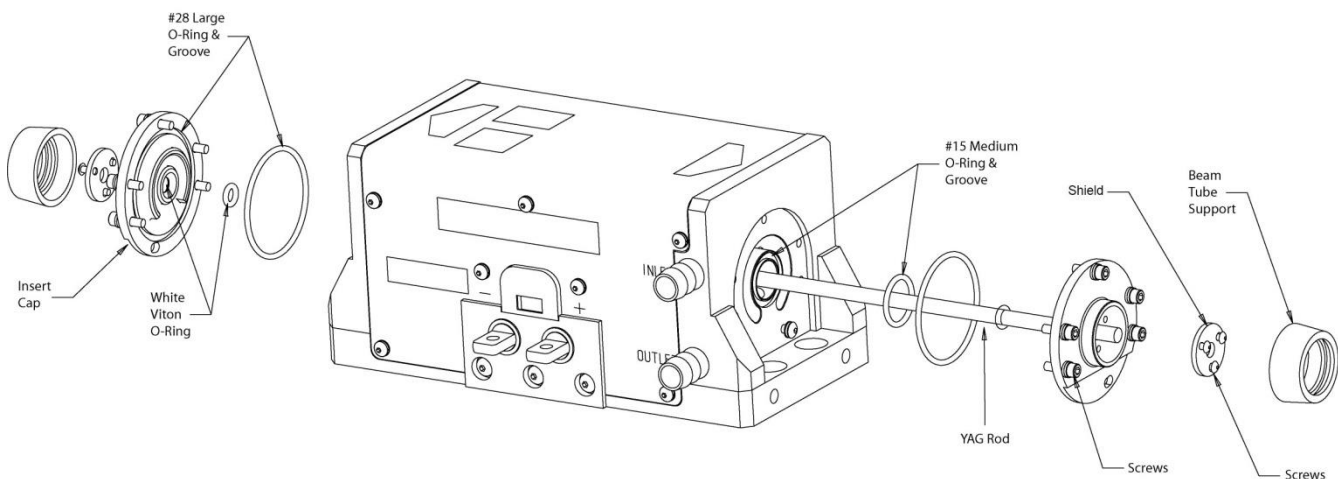

Figure 5-1 No Retainer Cap Rod Replacement Drawing
NG has manufactured three different configurations for mounting the laser rod. Determine the configuration you have from the graphics below (Figures 5-1, 5-3, and 5-4) and follow the steps for rod replacement.
- a. For the configuration shown in Figure 5-1, remove the shield